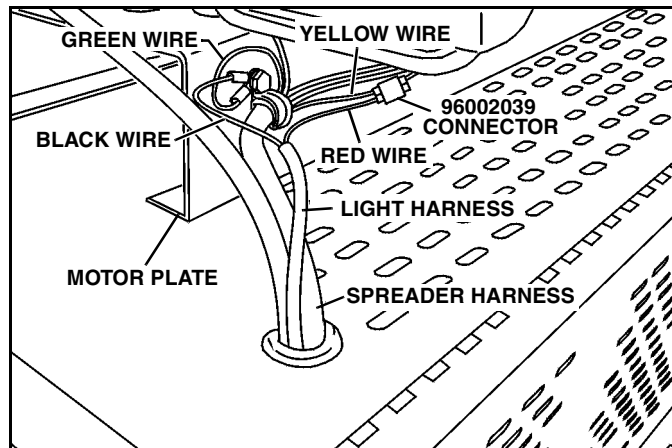

Figure 1-10
harness ground wire and the harness clamp to the motor plate. Remove the cap screw, then add the black ground wire from the Light Harness to the clamp and the green wire and re-install the cap screw. (See Figure 1-10). Tighten securely.
2. Locate the yellow wire from the spreader harness and separate it slightly from the other wires. Splice the red (+) wire from the Light Harness to the yellow wire using a 96002039 connector. (See Figure 1-10).